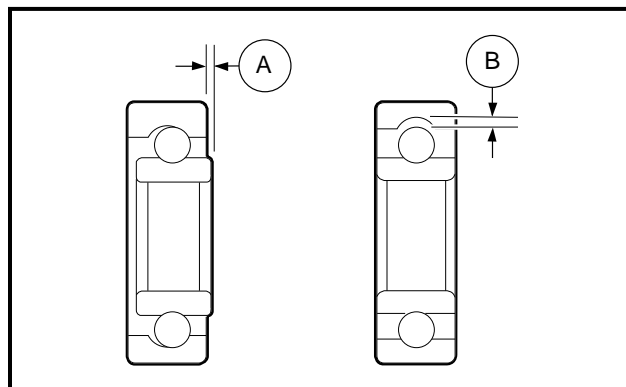

Figure 13-91 Check Ball Bearing
2. Spin the ball bearing by hand and check for (A) axial play and (B) radial play. Replace the ball bearing if it is noisy, does not spin smoothly, or if it has any play (**Figure 13-91, Page 13-41**).